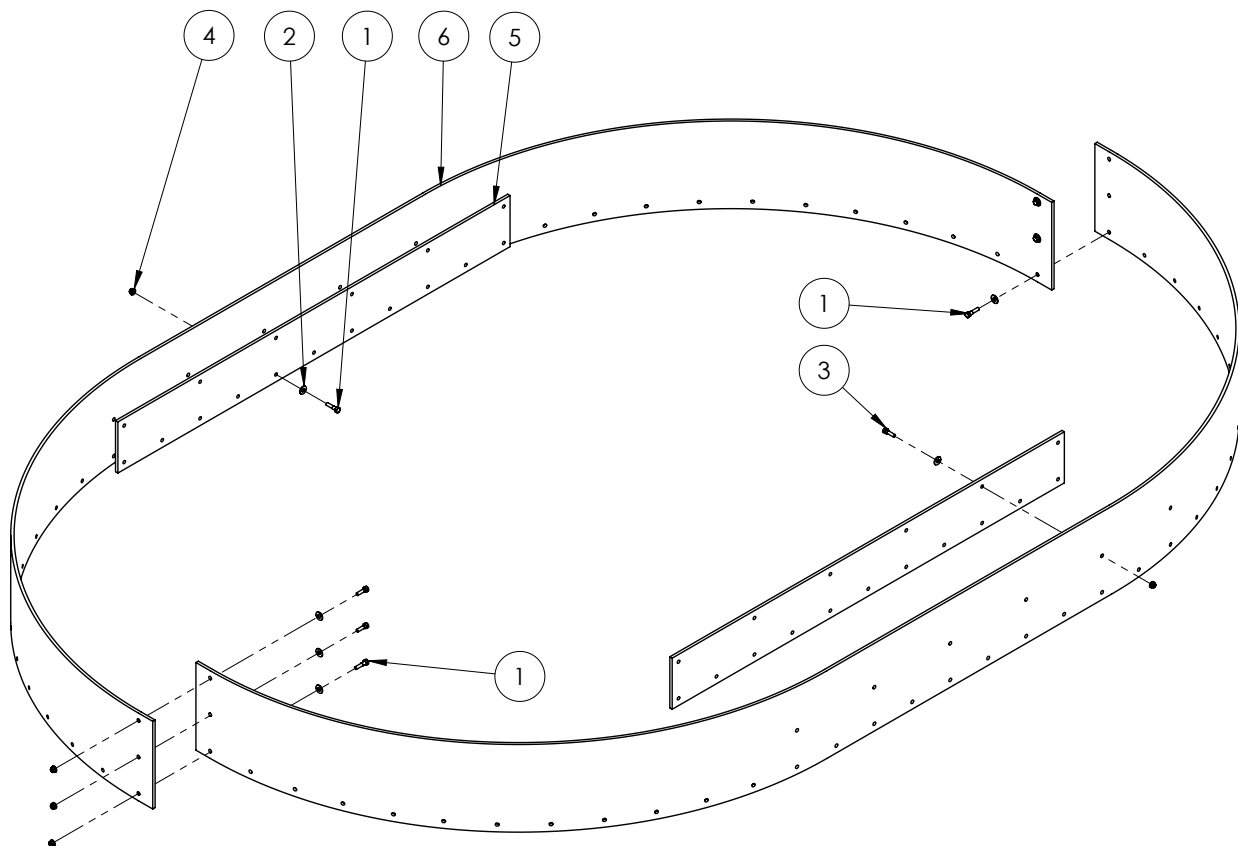

Figure 1: 10" Tub extension diagram
Refer to *Figure 1* and *Table 1* throughout this instruction.
1. Install the 2 longer outer rubber rings (6) to the inside ring of the tub wall with  $\frac{3}{8}$ " x 1- $\frac{1}{2}$ " hex bolts (1), flat washers (2) against the bolt head, and flange lock nuts (4).
- a. Overlap the ends of the rings as shown in *Figure 1*.
- b. At this time, do not place fasteners where the inner rubber belting (5) will attach.
2. Install the 2 shorter inner rubber belting pieces (5).
- a. Place the inner rubber belting pieces (5) on the inside of the outer rubber rings (6), as shown in *Figure 1*.
- b. Fasten the bottom of the overlapping pieces (outer and inner rubber belting) to the tub wall with  $\frac{3}{8}$ " x 1- $\frac{1}{2}$ " hex bolts (1), flat washers (2) against the bolt head, and flange lock nuts (4).
- c. Fasten the top of the overlapping pieces to the tub wall with  $\frac{3}{8}$ " x 1- $\frac{1}{4}$ " hex bolts (3), flat washers (2) against the bolt head, and flange lock nuts (4).